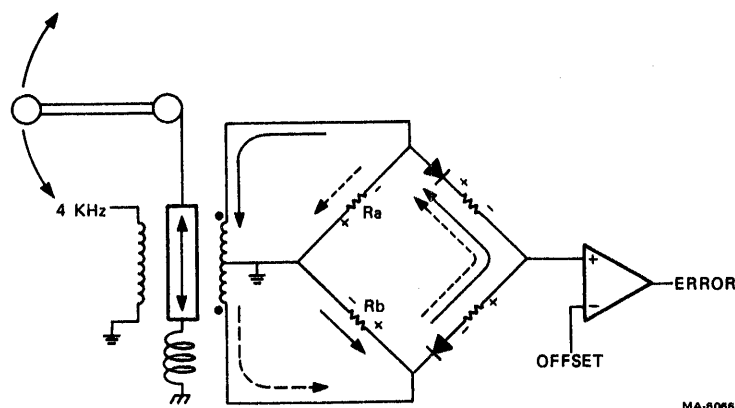

Figure 6-22 Tension Arm Transducer
Figure 6-22 provides more detail of the transducer error circuitry, Figure 6-23 shows signal relationships, and Figure 6-24 shows the tape load path. Table 6-13 gives a summary of the operation of the tape tension function.
6.5.4.1 Tension Arm Error Signal (Figure 6-22) – The tension arm transducer is a transformer with a moveable core or slug. The slug is connected between the pivot end of the tension arm and tension spring. Tape motion moves the tension arm causing the slug to move. The degree of coupling between the primary transformer winding and one half of the secondary is increased, causing the current to increase in the secondary winding. Coupling to the other half decreases, decreasing secondary current in that half. The secondary winding is wound so that these currents are out of phase, and connected to the input of a bridge. Current flows through one half of the secondary winding or the other on alternate half cycles of the 4 KHz input. The signal at the noninverting input to the error signal amplifier becomes: